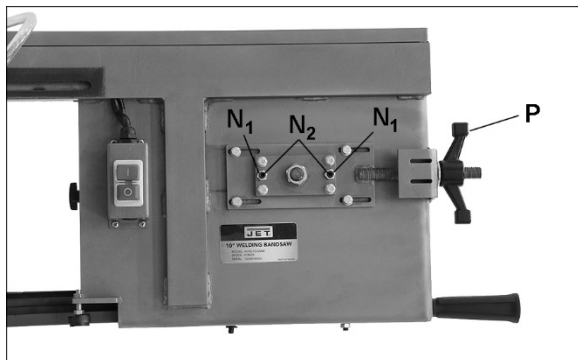

Figure 7-8: blade tension and tracking
5. Release tension on blade by turning tension handle (P, Figure 7-8) counterclockwise. Remove blade. (Use leather gloves when handling sharp blades).
Refer to Figure 7-8.
3. Turn blade tension handle (P , Figure 7-8) clockwise to tighten blade. Pluck the blade with your finger; a tensioned blade will emit a “twang” sound. As experience with the saw is gained, operator may develop a better feel for how tight to set a particular blade.
5. If blade is not tracking properly, loosen either of two hex nuts (N_1 , Figure 7-8).